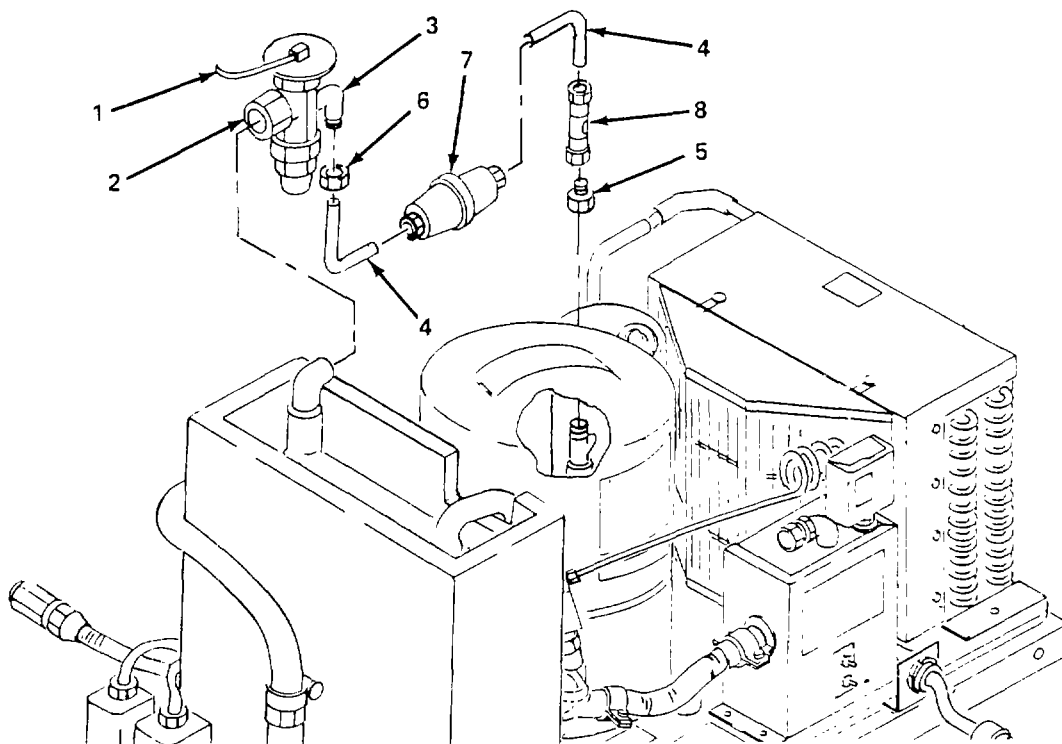

Figure 6-24. Condensing Unit Hermetic Filter and Sight Glass Line, Replace.
(5) *Replace filter and sight glass line.* (figure 6-24).
- (b) Remove coil (1) and loosen fitting nut (2) and remove from expansion valve (3) from line (4).
- (c) Loosen fitting nut (5) and remove line (4).
- (d) Loosen fitting nut (6) and remove from expansion valve (3).
- (e) Desolder flare filter drier (7) and sight glass (8) from line (4).
- (f) Solder sight glass (8) and flare filter drier (7) on line (4).
- (g) Install expansion valve (3) and tighten fitting nut (2).
- (h) Install coil (1).
- (i) Install line (4) and tighten fitting nuts (6) and (5).